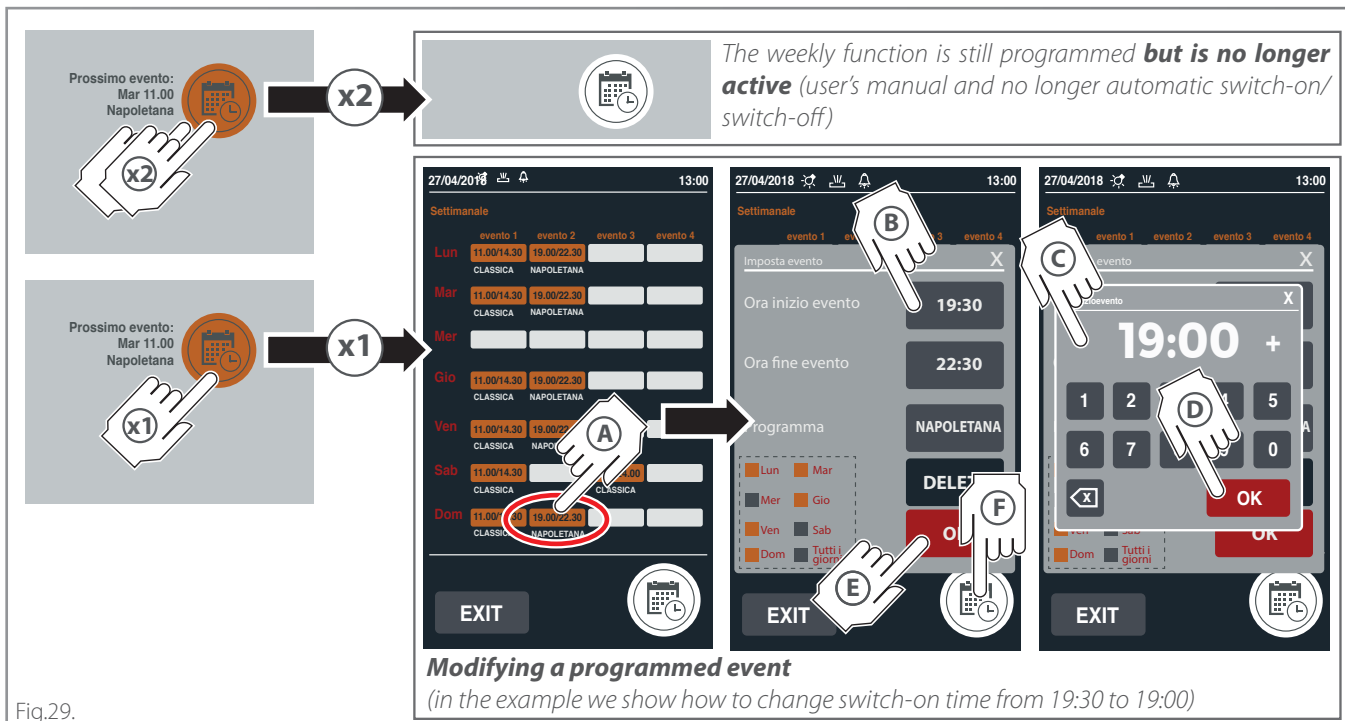

Fig.29.
► Fig.29.
To **cancel** the whole program (user's manual and no longer automatic switch-on and switch-off) see the figure ► Fig.29.
To **modify** an event, see the figure ► Fig.29. (x1)